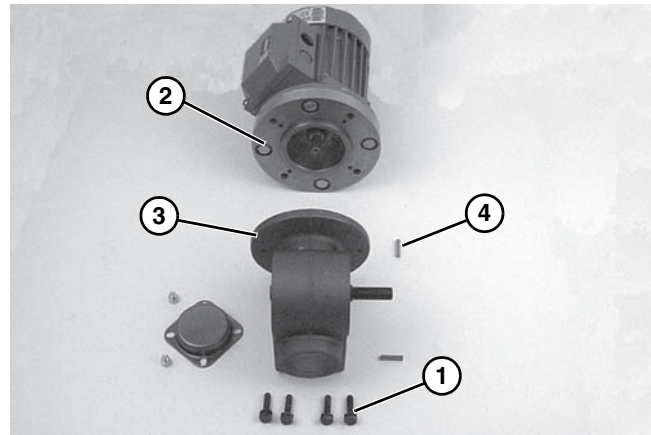

Figure 30
- Remove four bolts (**Figure 30, item 1**). Detach motor (**Figure 30, item 2**) from gear reducer (**Figure 30, item 3**). Retain motor output shaft key (**Figure 30, item 4**).